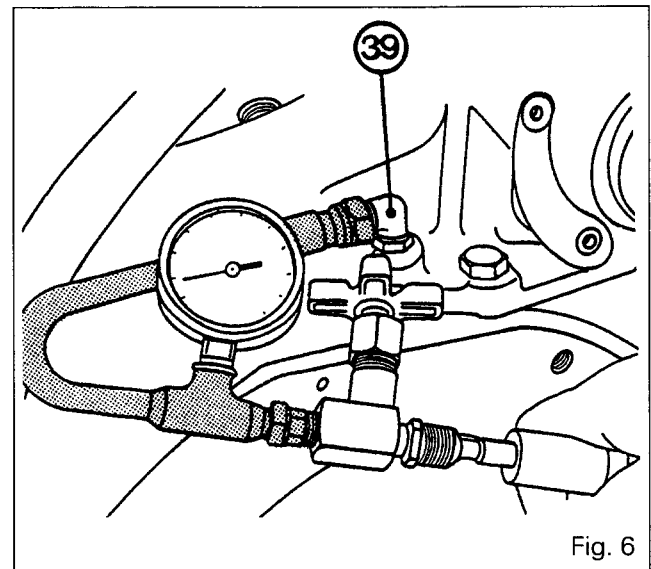

Fig. 6
20. Fit a pressure gauge and valve on the supply connector **(39)** (Fig. 6).